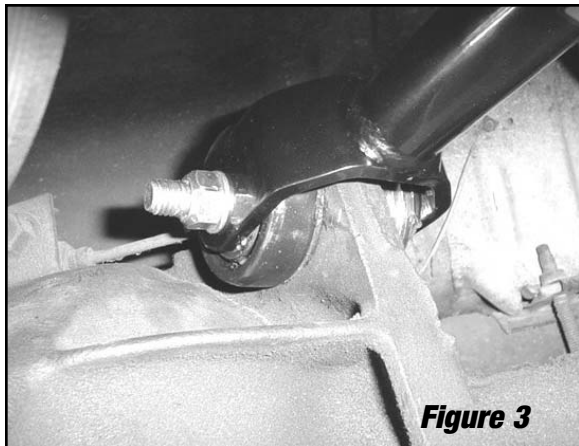

Figure 3
8. Remove the pressed-in factory rubber bushing from axle housing. Note direction of bushing in axle housing. Be careful not to damage axle housing (*see Figure 3*).
1. Install polyurethane bushing into axle housing, facing same direction as stock (*See Figure 3*).
2. Install polyurethane thrust washer on inboard side of bushing. **NOTE:** Left side only, some thrust washers will require trimming for clearance to axle housing (See arrow on *Figure 3*). If you install thrust washer at the same time as you install bushing, it requires less grinding for clearance.